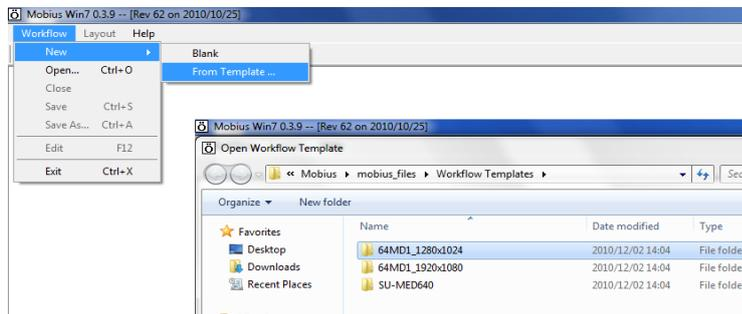

Figure 2-15. Opening the “Noise_check” workflow template.
4. Select [Workflow] > [New] > [From Template]. Select either of [64MD1_1280x1024] or [64MD1_1920 x 1080] folder depending on the size of your display monitor. (Figure 2-15)